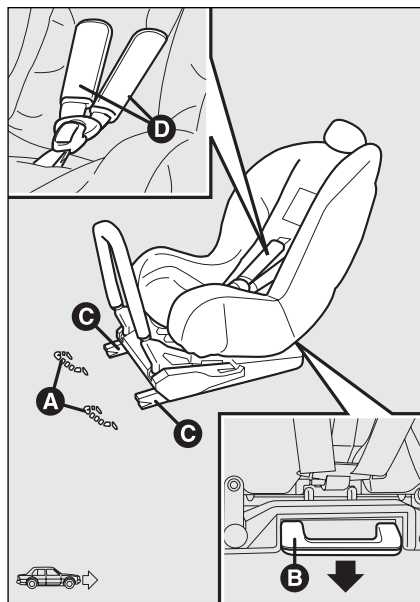

fig. 15
For children of the 0, 0+ weight group (babies up to 13 kg), the child's seat is facing backwards and the child is restrained by the child's seat belts **D**-fig. 15.
- check whether the release lever **B**-**fig. 15** is at rest position (inward);